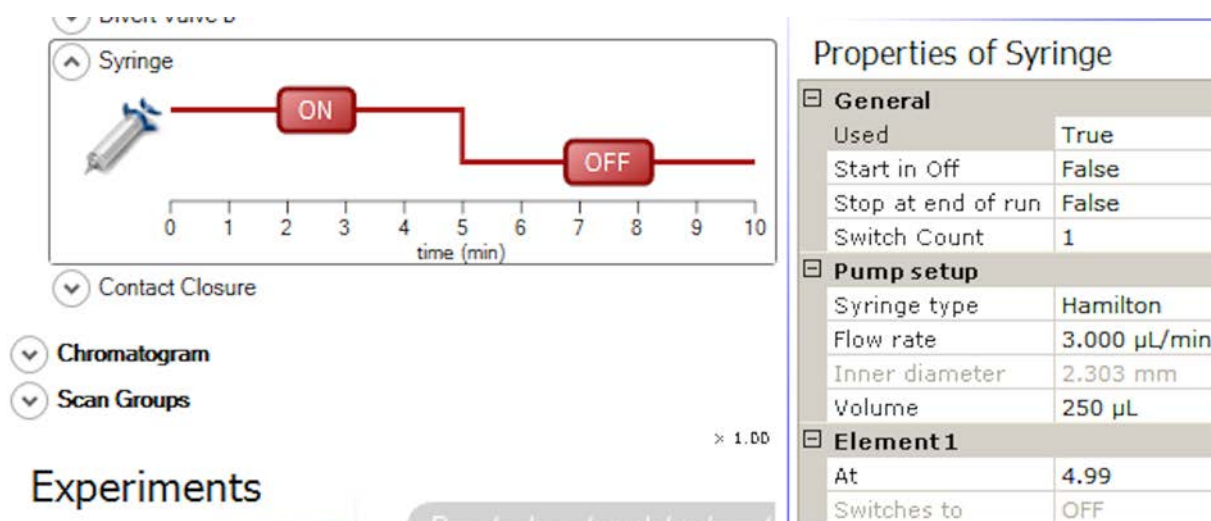

Figure 3-12. Syringe Pump pane
The Syringe item shows a graphic representation of the activities of the optional syringe pump during the active acquisition. See Figure 3-12.
- Right-click the pane to display the shortcut menu. Choose **Activate**. The gray color  changes to the red color . See Figure 3-12.
A step in the line of the graphic representation indicates the new switch point. See Figure 3-12.